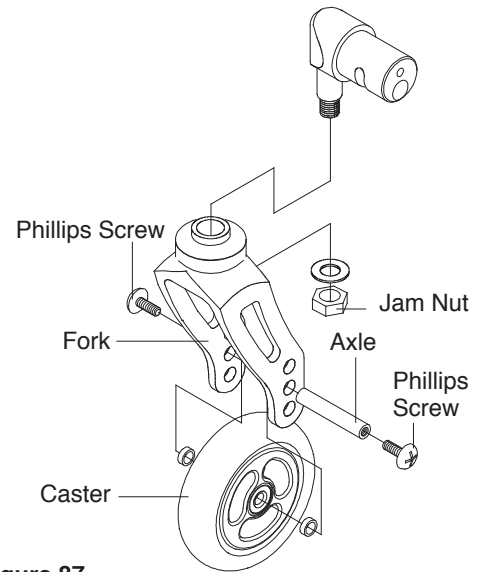

Figure 87
1. Remove the two Phillips head screws and axle that secure the front caster to the fork. **Note:** It will be necessary to use one screw driver to hold one screw in place and a second screw driver to loosen the other screw. See Figure 87.
2. Loosen and remove the jam nut and washer that secures the fork to the fork stem. See Figure 87.